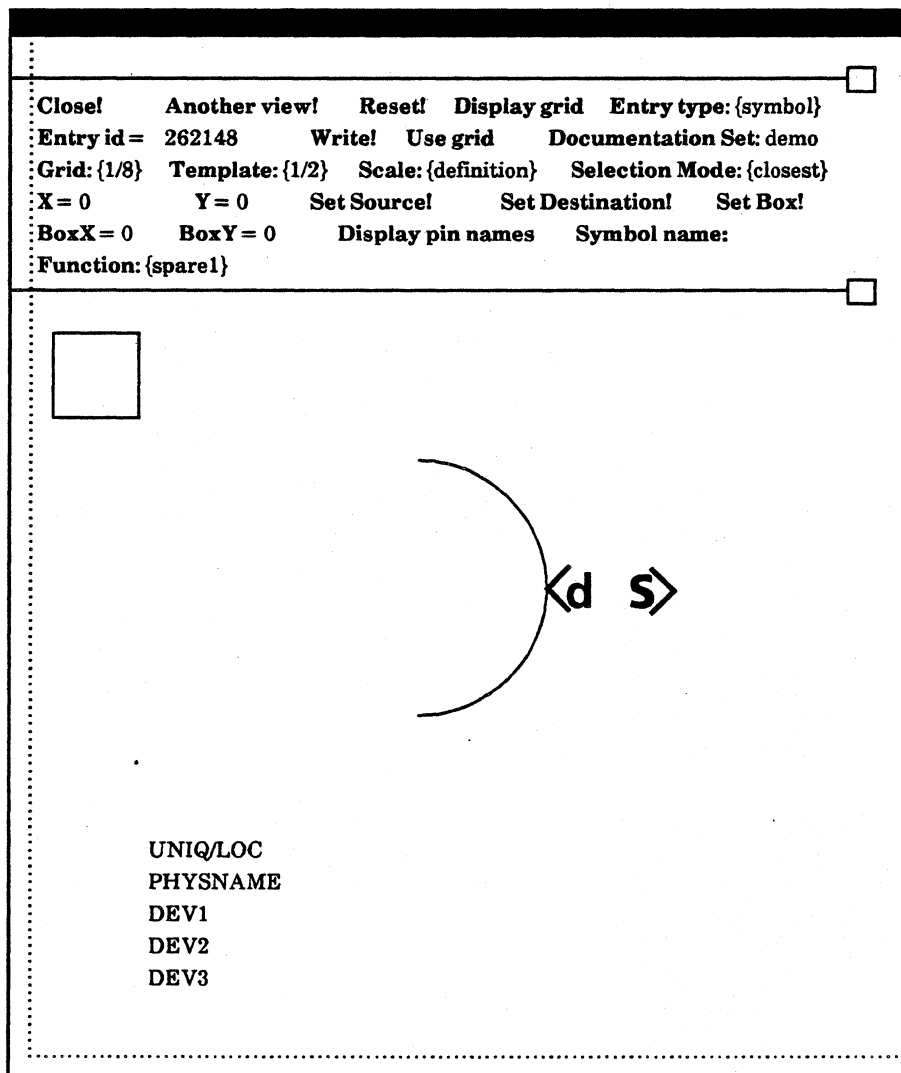

Figure 2.13
- 1) Mark the endpoints of the lead with the source and destination markers. The source marker marks the pin's *connection point*. The connection point is the end of the pin lead that connects to a net in a schematic. The source marker must be on a grid point. See figure 2.13.